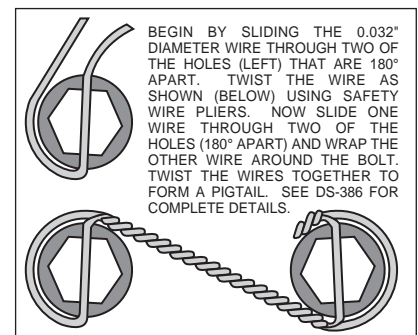

Figure 4. Safety Wire Diagram
- Apply red *Loctite*® 271 to bolt threads (2) before assembly of the caliper bracket (1) to backing plate face of spindle. Position the caliper mounting bracket (1) onto the spindle while positioning spacers (3) between bracket and spindle face. Slip the mounting bolts (2) into the threaded spindle holes, finger tighten. Torque two bolts (2) to 30 ft-lb. **NOTE:** Be sure the heads of the caliper bracket (1) insert nuts are facing outward toward the wheel.
- Install five new wheel studs (4) into the hub (5). Torque to 77 ft-lb. **NOTE:** There are two five lug patterns in the hub (5 x 4.50 and 5 x 4.75). Make sure of the correct hole pattern for the correct wheel application before installing studs into hub.
- Pack the large inner bearing cone (6) with high temperature disc brake bearing grease (available from your local auto parts store) and install into the backside of the hub (5).
- Install the grease seal (7) by pressing into the backside of the hub (5).
- Attach rotor adapter (8) to rotor (9) using six bolts (10). Apply red *Loctite*® 271 to the threads and torque bolts (10) to 25 ft-lb. For an added measure of security, the bolts may be safety wired using standard 0.032 inch diameter stainless steel safety wire as shown in Figure 4. Please refer to Wilwood's data sheet DS-386 for complete safety wire installation instructions. **NOTE:** The flat side of the rotor (8) lugs face toward the rotor adapter (9) with the dished side of the rotor adapter (8) facing away from the rotor (9).